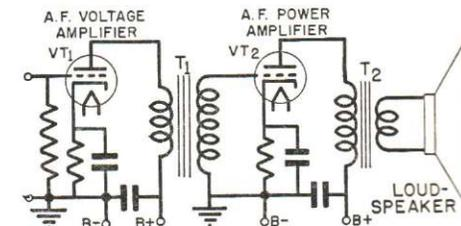

FIG. 17. Both an interstage and an impedance-matching transformer are shown in use here.
► Sometimes both interstage and impedance-matching transformers are used in the same apparatus. For example, in Fig. 17 transformer T_1 steps up voltage while T_2 matches the loudspeaker voice coil to the plate resistance of VT_2 .